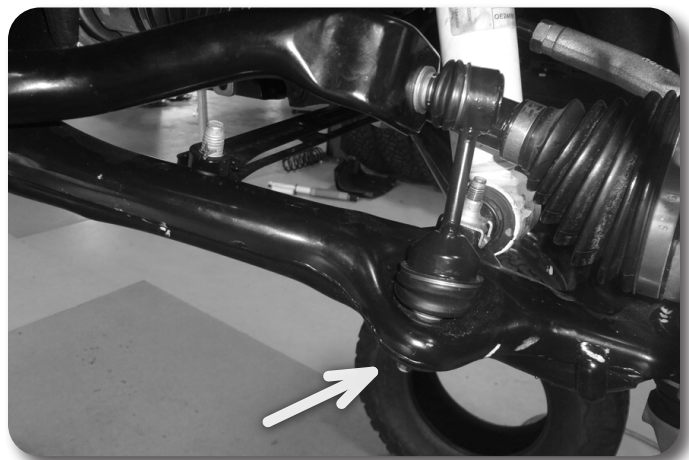

Figure 1
- Disconnect the front driver's and passenger's side sway bar links from the lower control arm (18 mm). Save hardware. **Figure 1**